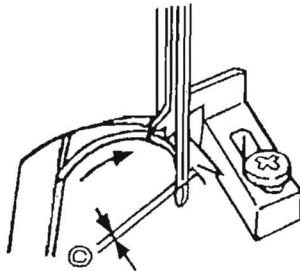
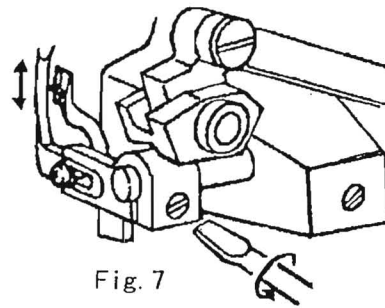
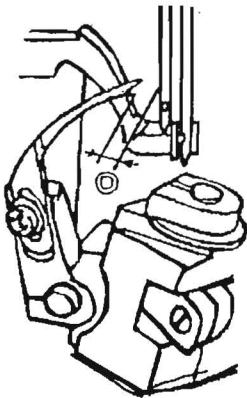
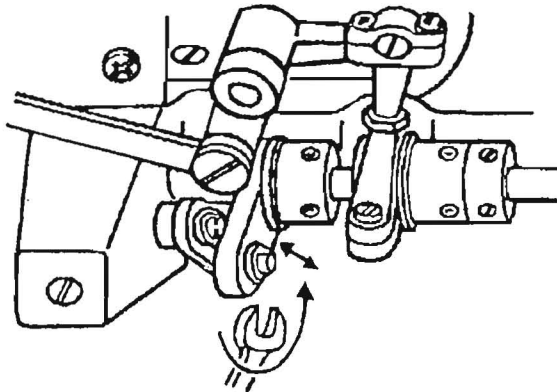

Fig. 6
Fig. 7
Fig. 8
Fig. 9
(1) When the large looper is in its advance end position, the size between the side of the hook needle and the large looper slot bottom (*Fig.6, "C"*) shall be as given in *Table 2*. To adjust the position of the large looper, loosen the tightening screw in the large looper block as illustrated in *Fig.7*.
(2) When the needle bar is at the lowest dead point, the distance between the large looper top and the side of the parent needle (*Fig.8, "D"*) shall be as given in *Table 3*. To adjust this distance, adjust the travel amount (angle of the oscillating block) by changing the position of the tightening screw in the large looper adjusting arm as illustrated in *Fig.9*. Decrease the travel amount, if the size "D" is excessive, or increase the travel amount if the size "D" is insufficient. To decrease the travel amount, loosen the tightening screw with a spanner and move the large looper adjusting arm so that it clears the large looper shaft. To increase the travel amount, move the large looper adjusting arm so that it comes closer to the large looper shaft. Since the travel position of the large looper (*Fig.6, "C"*) and the timing of the large looper to the needle will be changed by this adjustment, align the needle with the looper while confirming the proper timing.